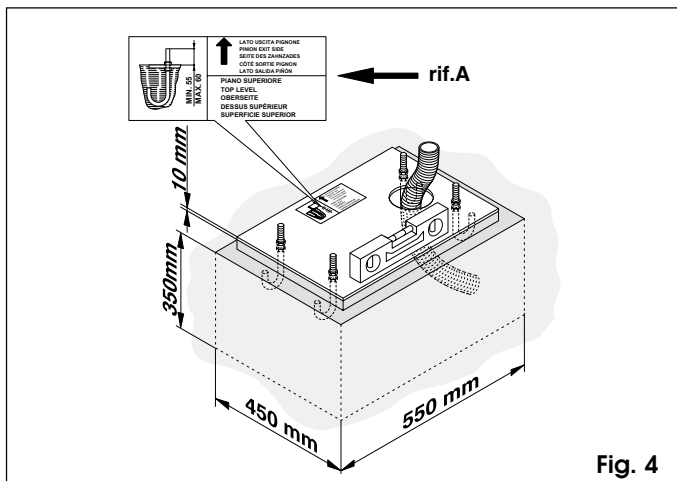
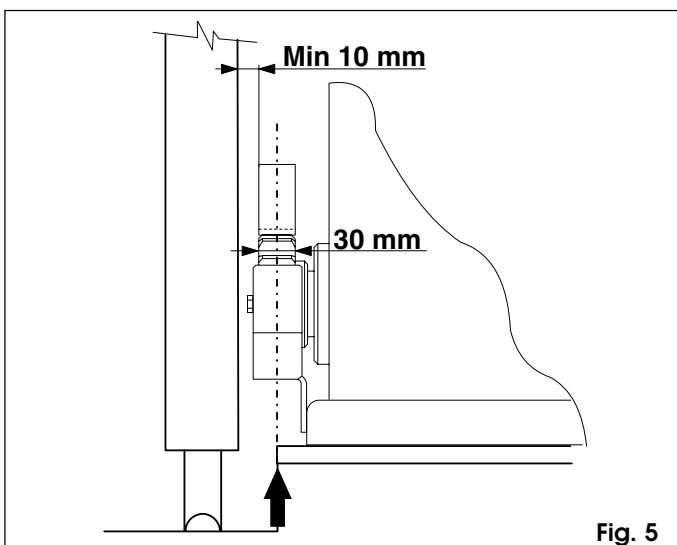

Fig. 4
Fig. 5
- 1) The base plate must be positioned as shown in Fig. 4. For the positioning distances refer to fig. 5.
- 2) Assemble the foundation plate as shown in A, Fig. 4.
- 3) Prepare a foundation plinth as shown in Fig. 4 and install the base plate providing one or more conduits for electrical cables. Use a level to check that the plate is perfectly horizontal and wait for the cement to set.
- 3) Adjust the height of the feet while keeping the gear motor raised from the plate by 1 cm and maintaining the distance from the gate shown in figs. 5 and 9.
**Important:** To mount the rack on the leaf it is necessary to construct special supports specifically for the type of gate. Fig. 10 shows an example of "L" support. For positioning the supports refer to figs. 5 and 9.